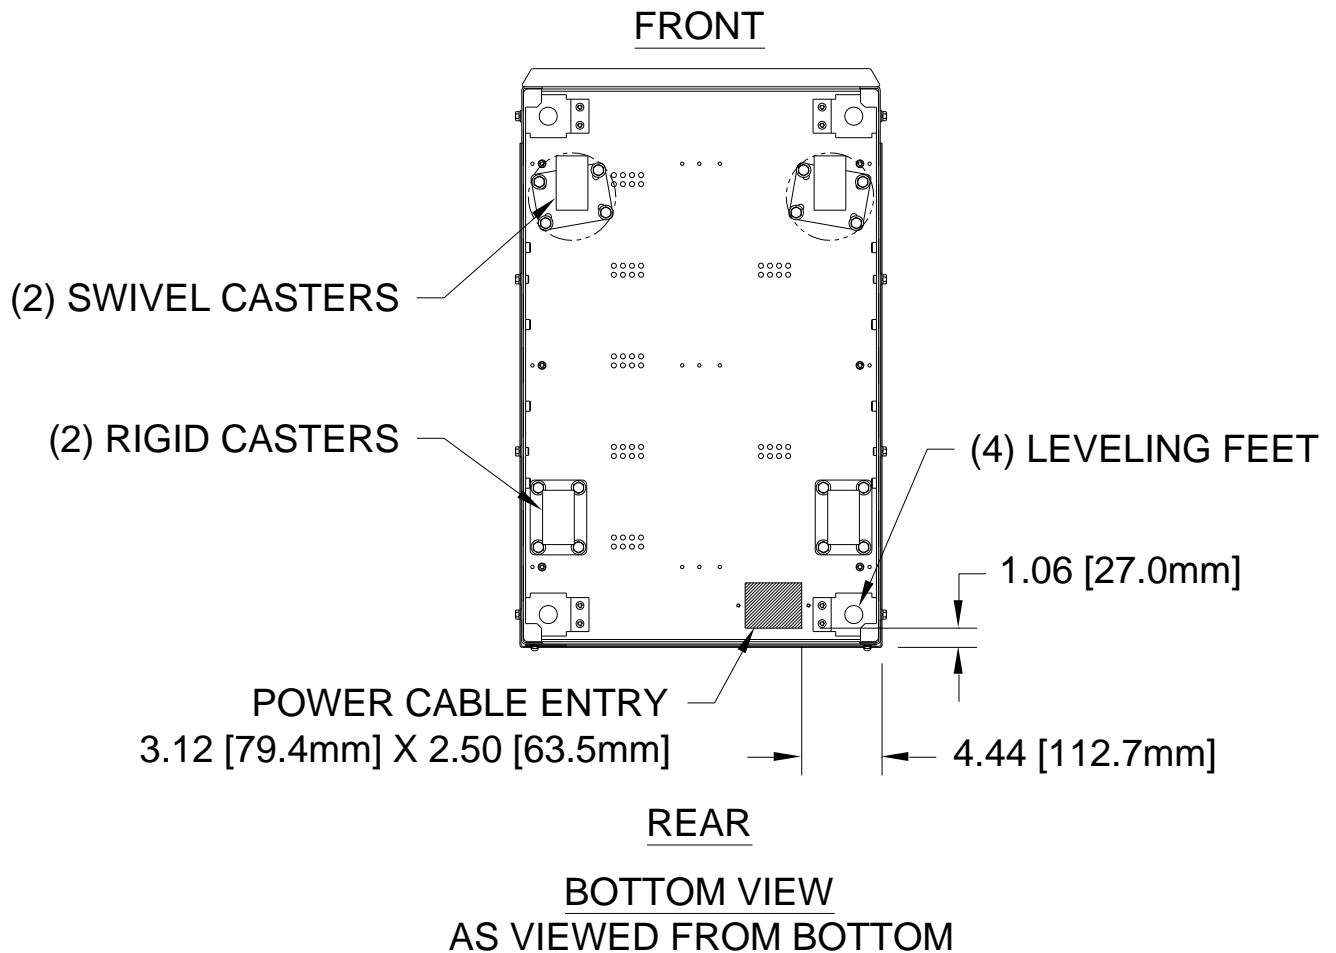

Figure 6 - Bottom View
6. The conduit landing plate is located at the rear bottom of the base to accommodate bottom wire entry to the cabinet (see figure 6).